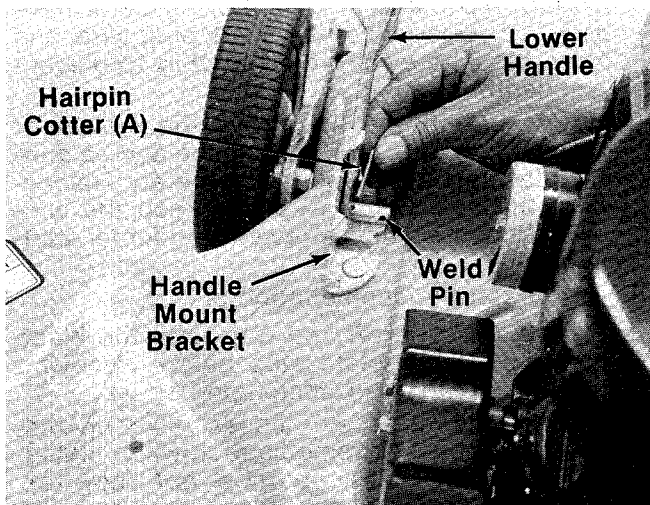

FIGURE 2.
3. Fasten lower handle in position over weld pins in handle mount brackets on deck. The hole in the lower handle must be on the **left** side of the unit. Secure with hairpin cotter in inner hole on weld pin. See figure 2.